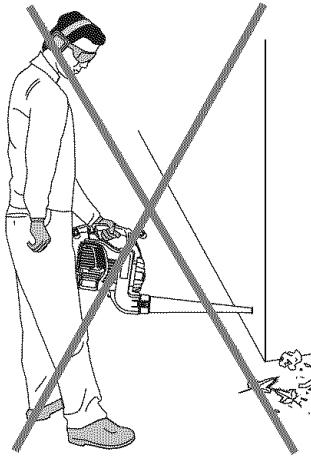
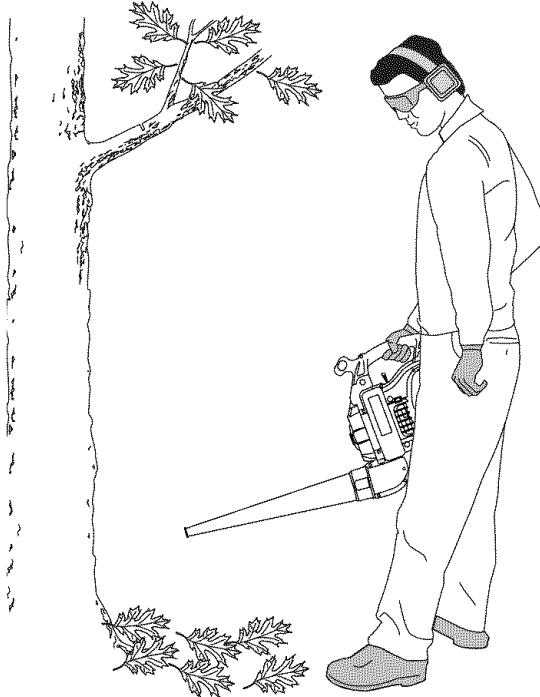

Fig. 19
Fig. 20
**WARNING - Hot Surface:** After starting the unit, always stand on the left side of the unit to operate it as shown in Figure 20. Do not operate the unit as shown in figure 19.
- 1 Use the blower for trees, shrubs, flower beds and hard-to-clean areas (Fig. 19).
- 2 Use the unit around buildings and for other normal cleaning procedures (Fig. 19).
- 3 Use the blower around walls, overhangs, fences and screens (Fig. 20).